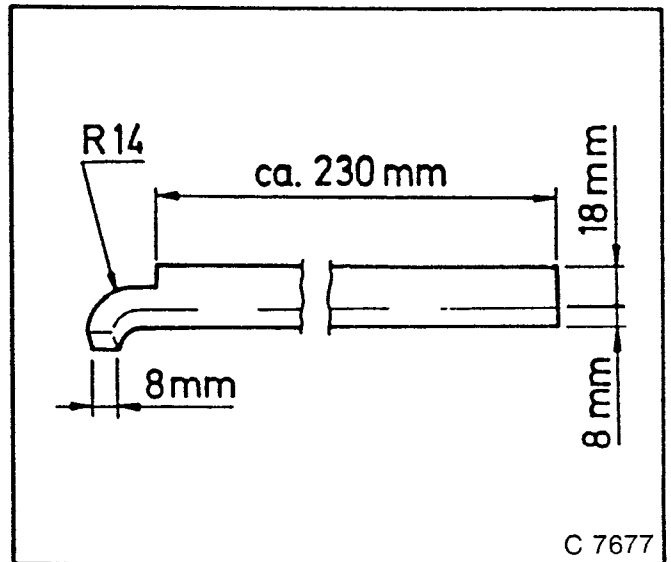

Fig. 39
3. Drive outer race of **INNER BEARING** out of disc hub with a soft metal drift (see fig. 39).
4. Drive outer race of **OUTER BEARING** out of disc hub with a soft metal drift (see fig 39) or suitable length of pipe. Place KM—466—2 under it.